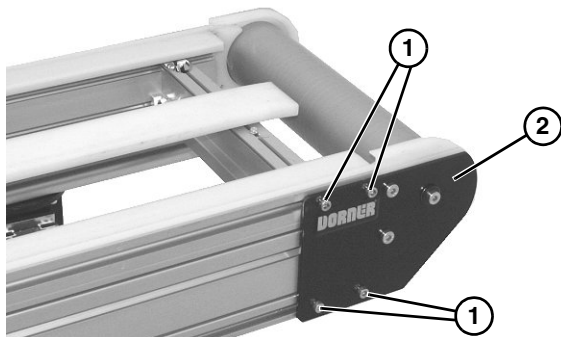

Figure 48
2. On one side of conveyor, loosen the four socket head screws (**Figure 48, item 1**). Repeat on opposite side.
3. Remove idler tail assembly (**Figure 48, item 2**).